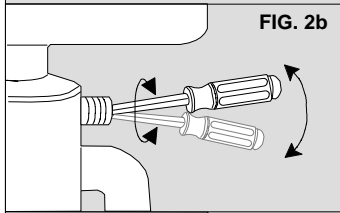

FIG. 2b
4. Scrape the inside of the exposed disposal nipple with a screwdriver to remove any build up caused by dishwasher. (See Fig. 2b)